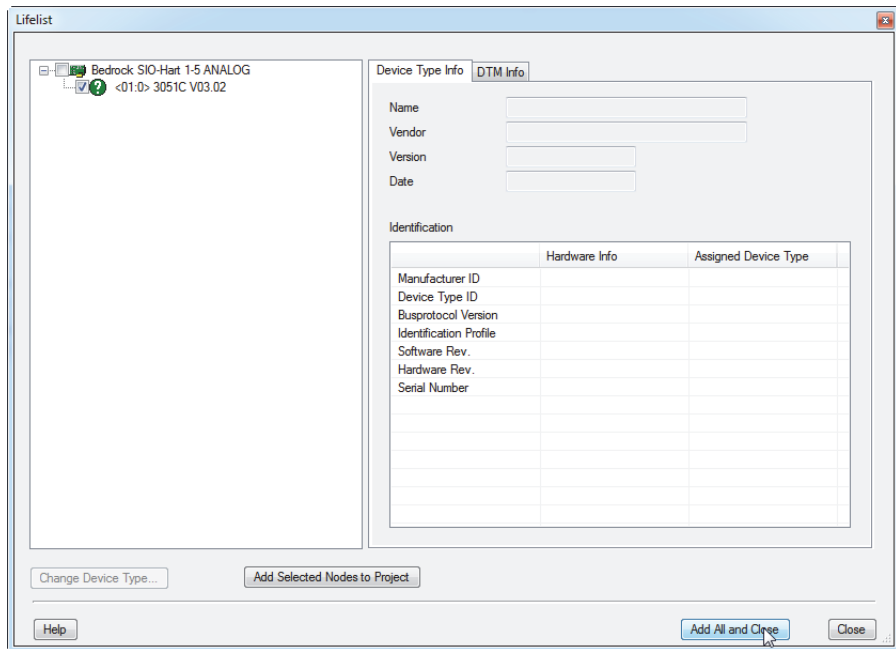

Figure 11-14 Adding a Device DTM
16. Perform this step only if you elected to automatically add a device DTM. A list of the DTMs that were found will be displayed as shown in Figure 11-14. Use the checkbox to select the DTM(s) you would like to add to your project and then do ones of the following: